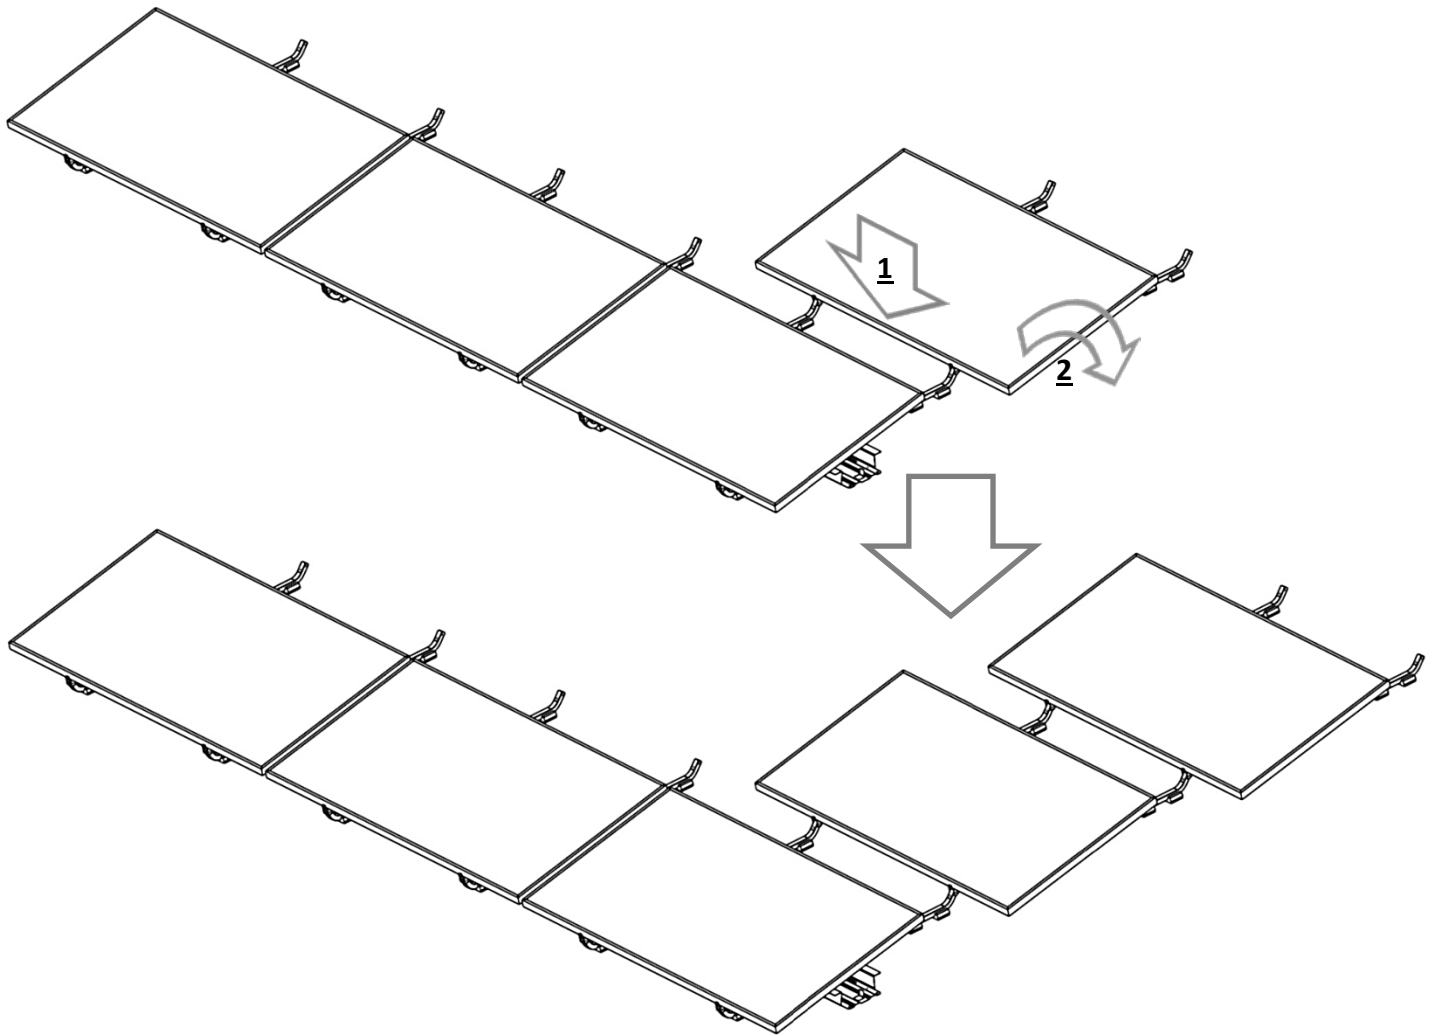

Figure 6 North-South Column Setup
1. Carry one module and two Standard Supports to Southeast or Southwest corner. Set Standard Supports down within arm's reach behind the previous row (Figure 6).